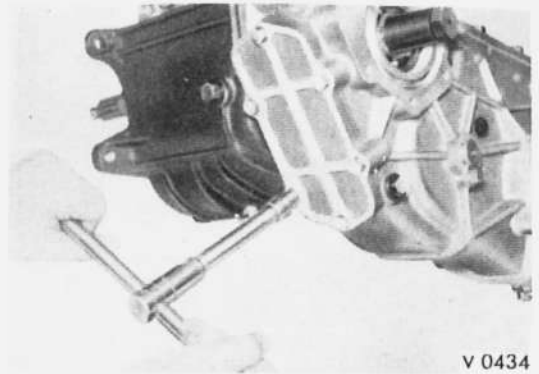

Fig. 3 8. Removing the power take-off cover from the transfer case.
2. Remove the six hex-head cap bolts and wave washers that secure the power take-off cover to the transfer case. (Fig. 3 8)